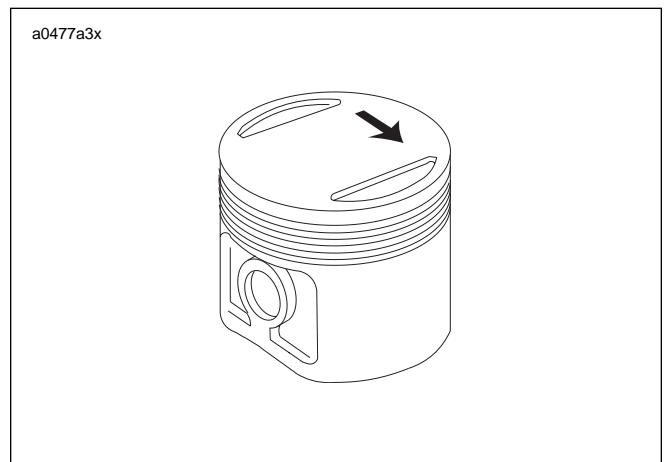

**Figure 3-71. Removing Piston Pin Circlip Using Piston Pin Circlip Remover/Installer (Part No. HD-42317)**
- a. See Figure 3-71. Insert the PISTON PIN CIRCLIP REMOVER/INSTALLER (HD-42317) into the piston pin bore until claw on tool is positioned in slot of piston (directly under circlip).